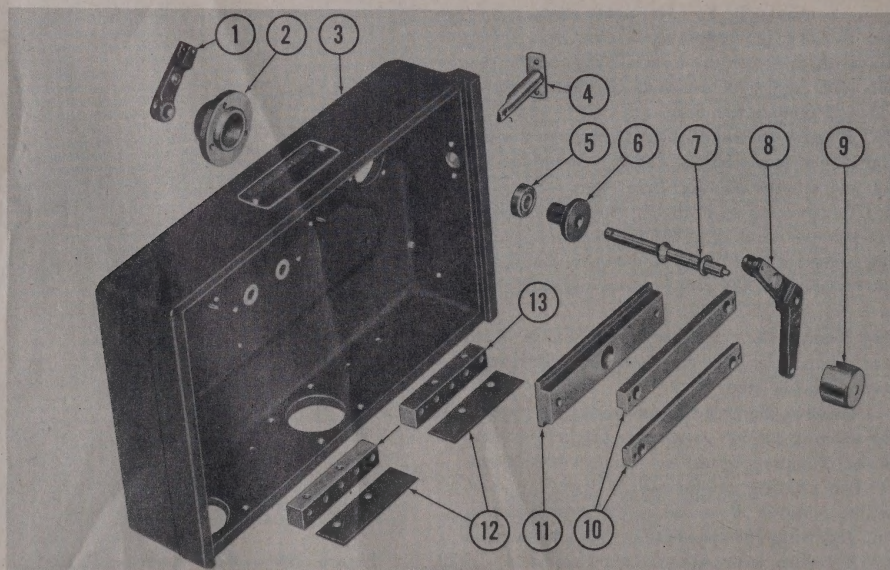

Figure 309 — Directional Panel Housing Assembly, Exploded View
(10) REMOVE TERMINAL BLOCKS FROM HOUSING. (See figure 309.)—Remove the four fillis-
ASSEMBLY. (See figure 309.)
(12) DISASSEMBLE HOUSING ASSEMBLY. (See figure 309.)—Scribe the slide guides and slide so that they may be reassembled in the same position. Remove the four fillister-head screws which secure the operating slide guides (10) to the housing and remove the two operating slide guides and the operating slide (11). Carefully remove any shims found under the guides.
(1) VISUAL EXAMINATION.—Examine all parts for noticeable damage of any kind. Replace any damaged parts.
(2) HOUSING ASSEMBLY. (See figure 309.)—Wash the housing (3), slide (11), and slide guides (10) in carbon tetrachloride (U.S. Army Specification No. 4-503-110B). Examine the slide and slide guides and the housing where the slide bears against it for nicks or scratches which might prevent the free sliding of the slide in the guide against the housing. Polish out any fine nicks or scratches with a fine India stone or very fine polishing cloth. If nicks or scratches are deep, replace the damaged part. Be sure that dowel pins are not bent or damaged.
(3) AN RECEPTACLES AND TERMINAL BLOCKS.
(8) ACTUATING LEVERS AND SHAFTS. (See figure 309.)
(1) ASSEMBLE HOUSING ASSEMBLY AND ACTUATING SHAFT AND LEVERS. (See figure 309.)
(d) (See figure 309.)—Attach the two terminal blocks (13) to the housing assembly, using four 3-48 x $\frac{1}{2}$ -inch fillister-head screws. Be sure to insert the insulating strips (12) between the terminal blocks and the housing.